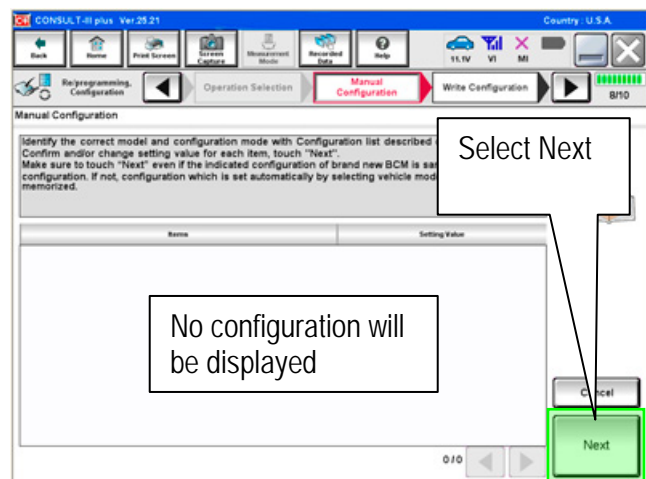

Figure 2
- The screen in Figure 2 will then be displayed, but will not display a model or a manually configurable list.
3. Select **Next** (Figure 2).